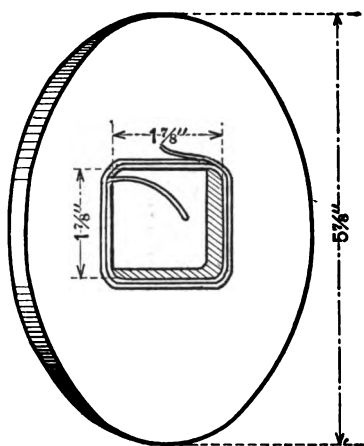

FIG. 195.—ONE OF DISKS OR PIES FOR SECONDARY.
**The Secondary Coil.**—The secondary coil should be wound in thin disks called *pies*, as shown in Fig. 195.
Five pounds of this sized wire will make about 31,500 turns of wire altogether, but it must be divided up into 15 disks or *pies*, each of which is  $\frac{1}{4}$  inch thick and has an opening  $1\frac{7}{8}$  inches square and an outside diameter of  $5\frac{7}{8}$  inches as shown in Fig. 195; thus the number of turns of wire in each pie is 2,100.
Lay the revolving part by for half an hour or until the paraffin is cold and hard. You can then loosen the screw in the block that holds the left-hand cheek to the spindle. Slip the blade of a table knife between the rings of paper and the cheeks all round when the upper cheek can be lifted off and the wire pie can be taken off as smoothly as you please. Strip off the rings of paper when the pie will look like the drawing, Fig. 195.